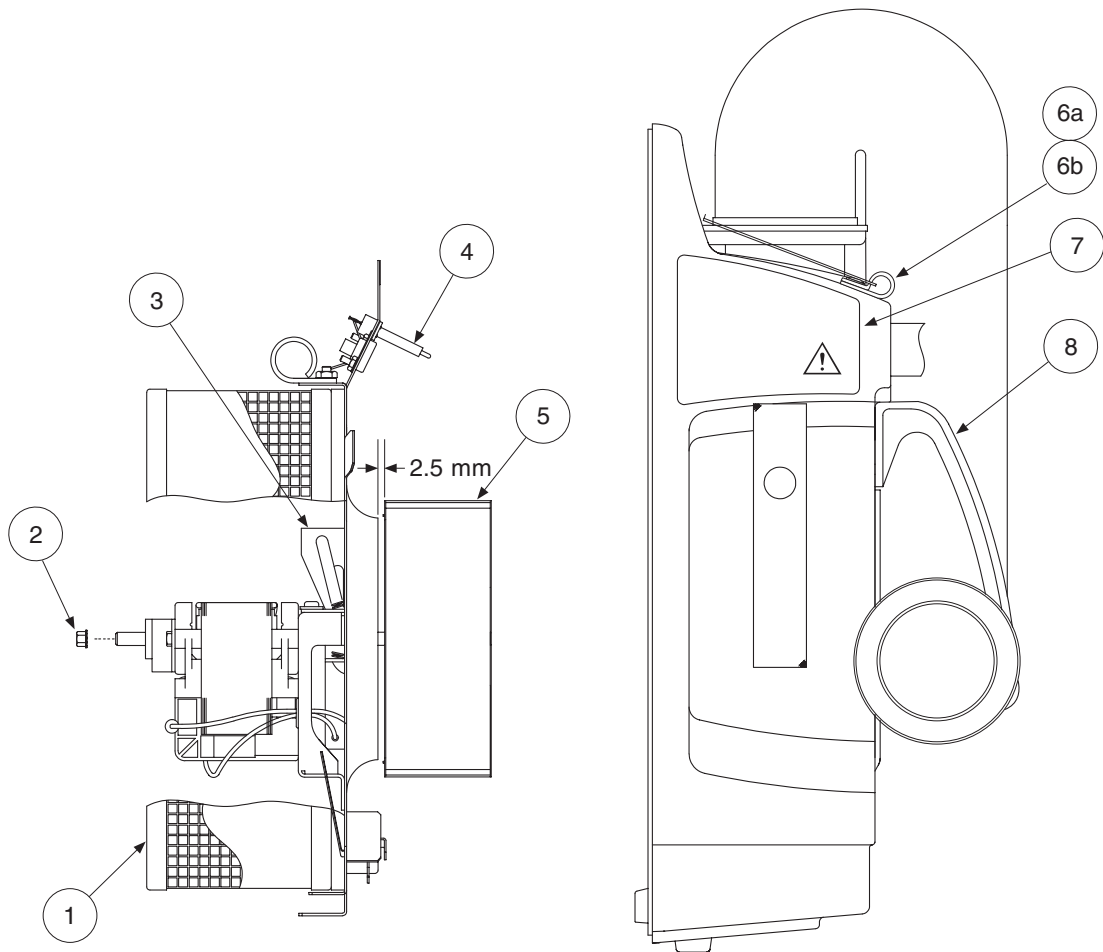

Figure 9 - TC3003 Detail Drawing
15. Reinstall the blower wheel, making sure there is 2.5 mm clearance between the wheel and the blower inlet ring (see fig. 9). (NOTE: the hex screw must be aligned with the flat on the motor shaft.)
16. Reinstall the blower wheel, making sure there is 2.5 mm clearance between the wheel and the blower inlet ring (see fig. 9).